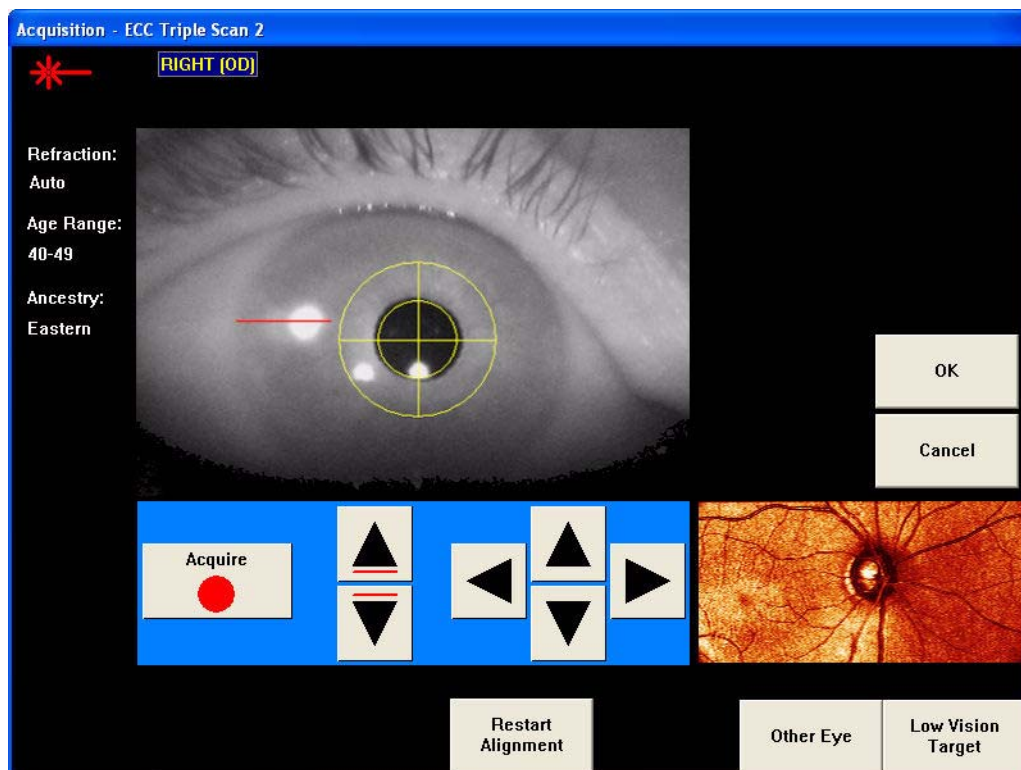

Figure 4-32 Acquisition Screen for Triple Scan 2
2. Acquire the first RNFL scan as outlined in Scanning Procedure starting on page 4-3. The IMAGE CHECK screen is displayed, giving you the opportunity to modify the image, retake image(s) or accept the scan(s). When you select **Accept** or **OK**, the second Triple Scan ACQUISITION screen is displayed (Figure 4-32).